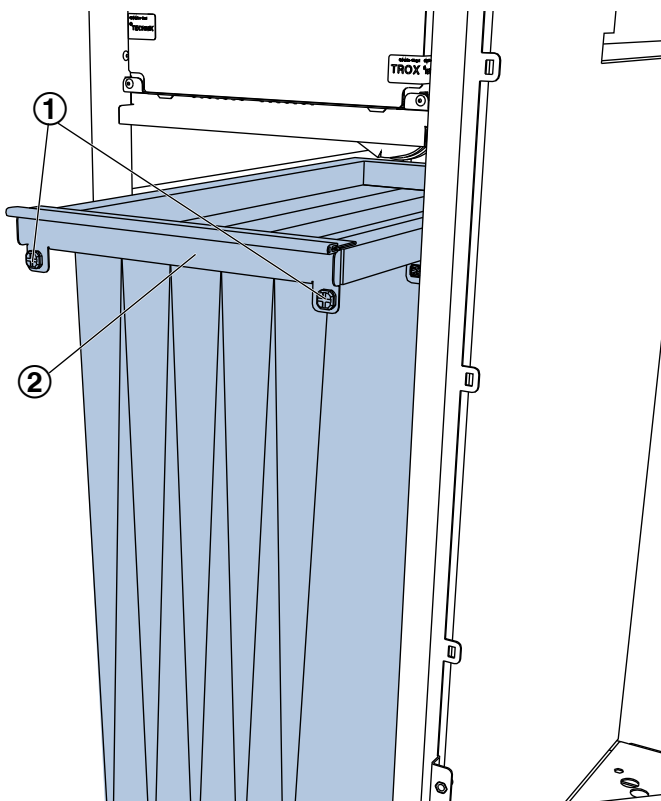

Fig. 15: Outdoor air filter
9. ▶ Open the quick release fasteners (Fig. 15 /1) and pull the filter (Fig. 15 /2) out of the device by the frame.